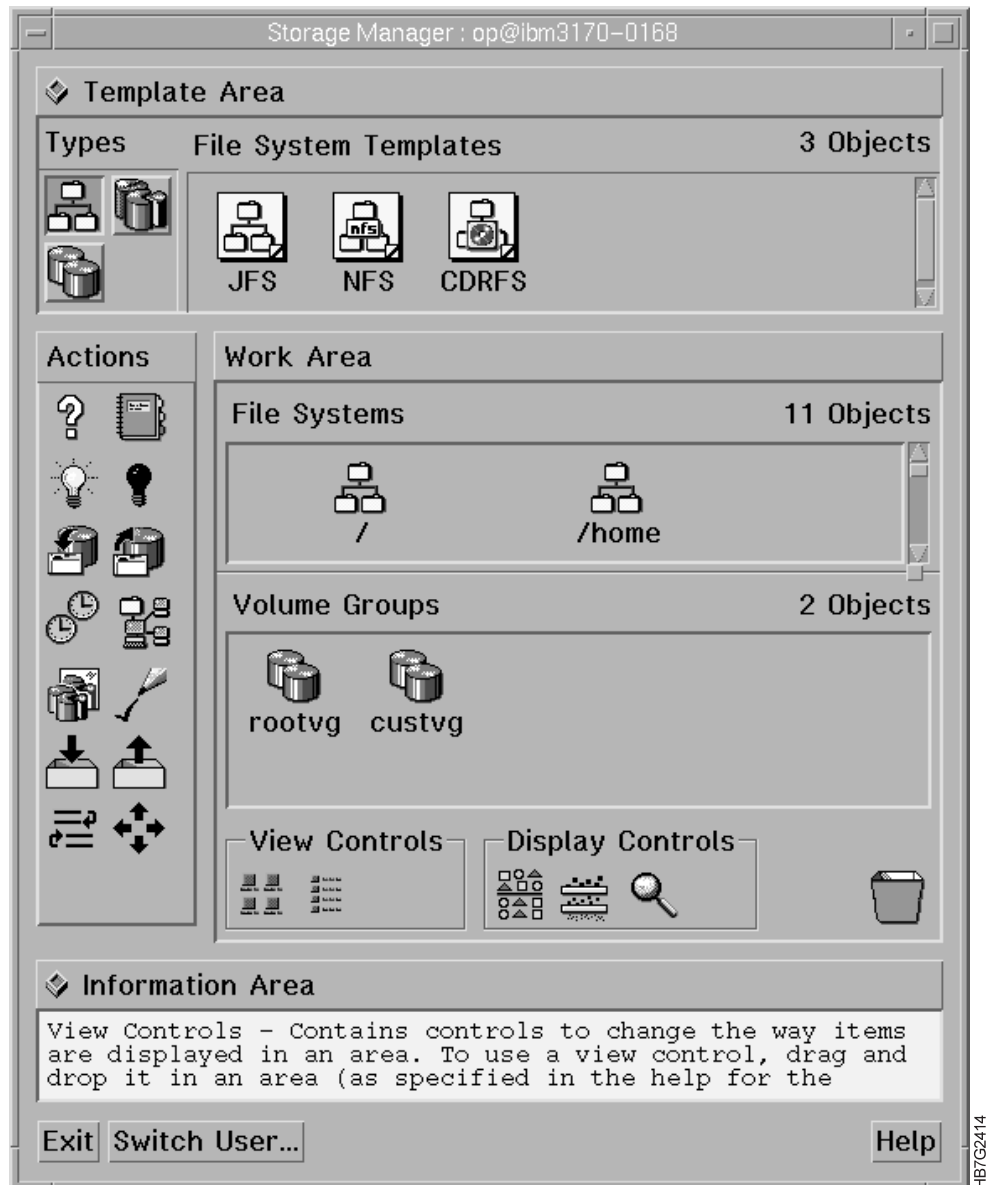

Figure 104. Storage Manager Window
- 7 Click the **Storage Manager** icon to open the **Storage Manager** window, as shown in Figure 104 on page 144.